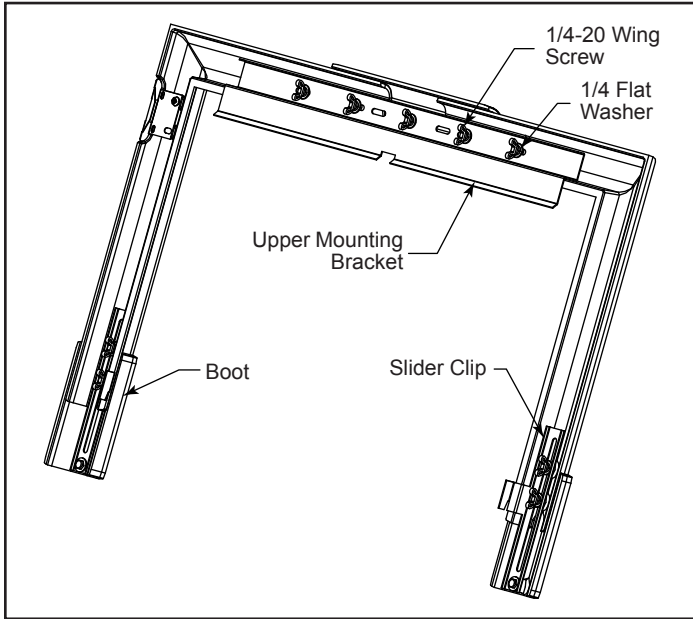

Figure 3 - Install upper mounting bracket.
4. Install the upper mounting bracket. Use the upper mounting without the marked "R" stamped on the face, Figure 3.
5. Fasten the upper mounting bracket to the key with a 1/4-20 wing screw and 1/4 flat washer finger tight, Figure 3.